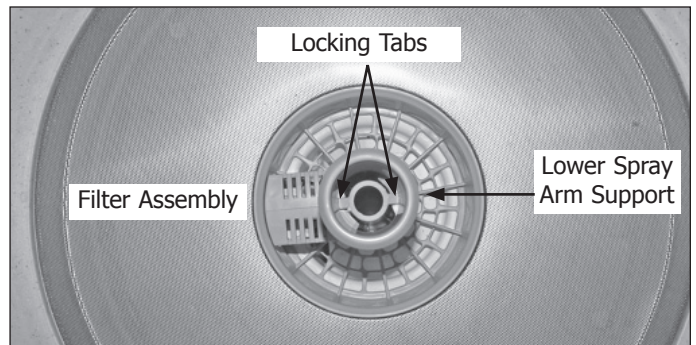

Figure 4-19.
5. Turn lower spray arm support counter-clockwise until retaining tabs are free of the inlet tube. Remove lower spray arm support from unit. (See Figure 4-19)